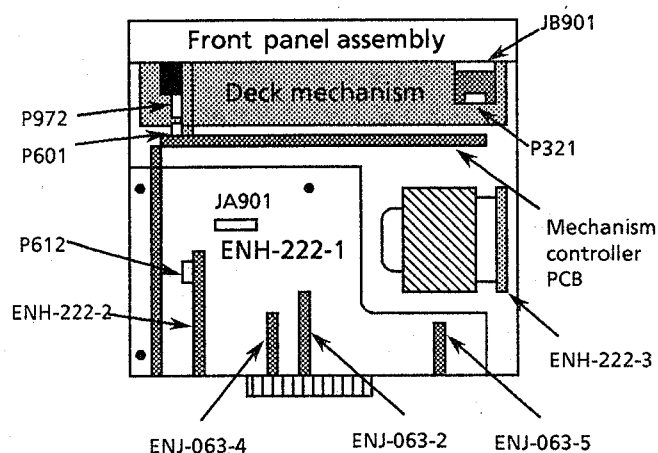
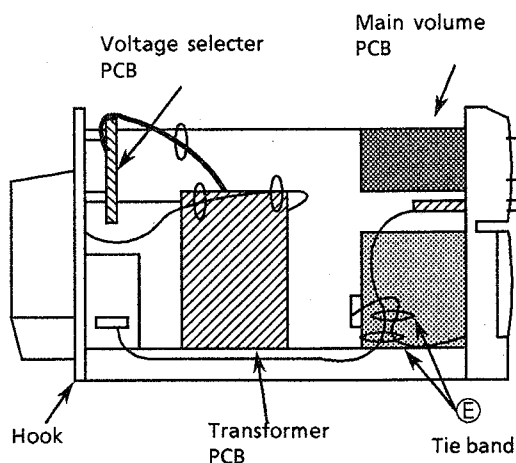

Fig. 2 Top view
Fig. 3 Left side view
2. Cut the tie bands ⑤ and ⑥ (Fig. 3,4).
3. Remove the screw ①.
5. Disconnect the connectors P331, P332, P333, P334 (Cassette deck CB), P321 (Head phone CB), P612 (Input selector CB) and the flat wire JB901 (System control CB) and P972 (Main volume CB) (Fig. 2, 3,4).
4. Release the both hooks to remove the rear panel (Fig. 3,4).